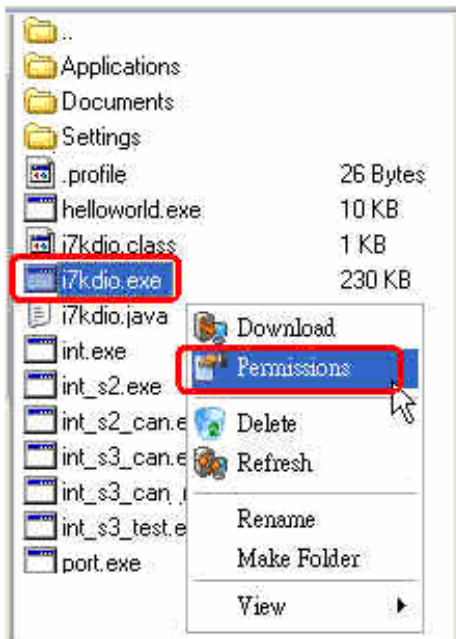

Fig.5-8
(3) Click the helloworld.exe file in the LP-8x21 to select it and then right click the file icon and click the “**Permissions**” option. In the Properties dialog box, type 777 into the Numeric textbox, and then click the OK button. Refer to Fig. 5-8 and Fig. 5-9 for more details.